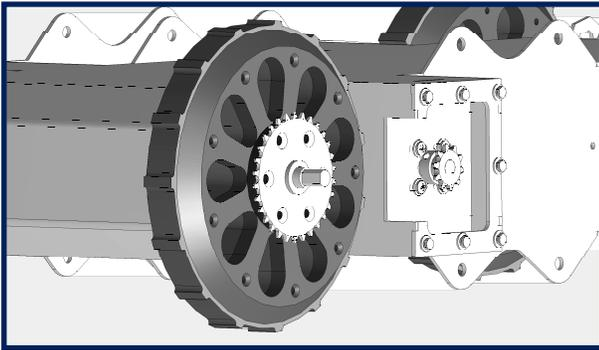
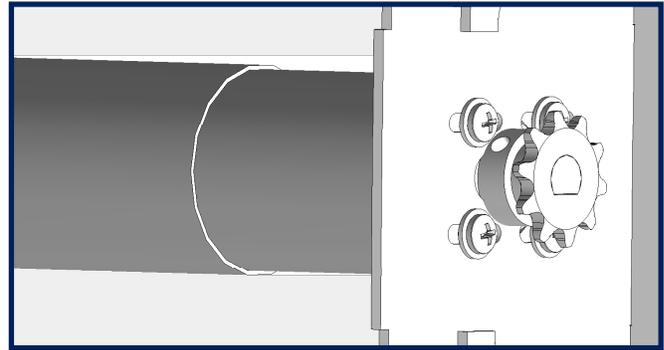

FIGURE 3A
FIGURE 3B
- Tighten the set screw. Refer to **Fig 3A** and/or **Fig3B** for placement of the sprocket on the motor shaft.
1. Place the drive wheels in the front and back. The chain sprockets should be positioned outside of the wheel. Refer to *Fig 3A/B*.